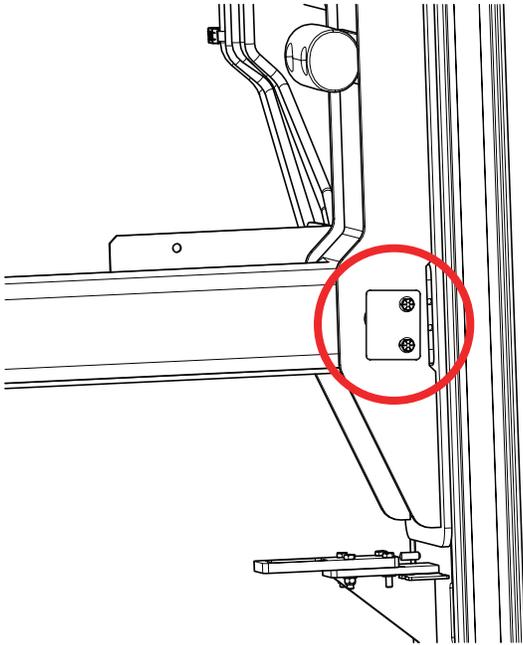

Figure 1: Remove and discard the old retainer plate from the mast. Retain the bolts.
6. **Mast:** Remove the two bolts and retainer plate from the mast (see Figure 1). Retain the bolts and discard the retainer plate.